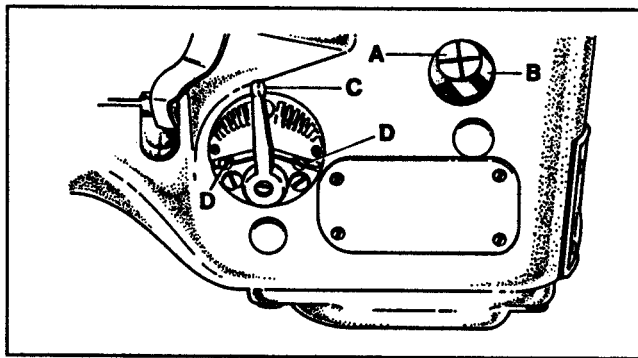

FIG. 19
This machine is designed to sew 10 to 16 stitches per inch. The normal factory setting is 16 stitches per inch. To change the stitch length remove the plug screw located directly above the cylinder side cover. Loosen screw (A, Fig. 19) in lever (B) and move up to increase the stitch length or down to decrease the stitch length. Tighten screw (A) and replace the plug screw.
The amount of differential feed is controlled by lever (C, Fig. 19). The adjusting plate is numbered from 1 to 9. When the lever is set from numbers 1 to 4 reverse differential or stretching occurs. The numbers from 4 to 5 produce equal feed stitching while numbers 5 to 9 produce a gathering stitch. The two stop screws (D) can be set to limit the movement of lever (C) or lock the lever in one position.